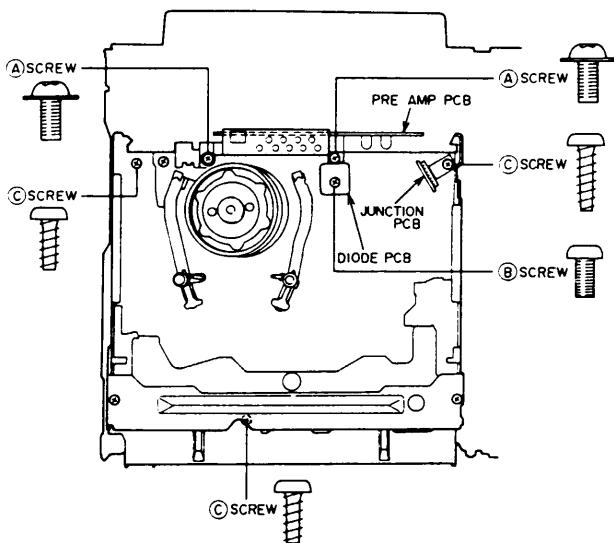

Fig. 4-24
- 1) Remove the two **A** screws then pull up the PRE AMP PCB as shown in Fig.4-24.
- 3) Remove the three **C** screws from the MECHA. FRAME as shown in Fig.4-24.